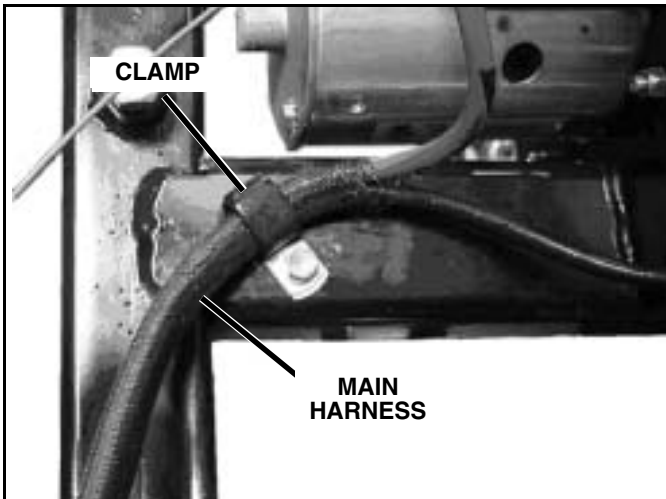

Figure 1-3
2. Run the 4 wire harness on the receiver unit over to the main power harness. Zip tie where necessary to the main power harness. Ensure the control wire harness is routed in the power harness clamp and continue running with the main power harness. Leave enough room to connect harness to vehicle harness. Ensure the cable is clear of pinch points and latching mechanism. Any excess cabling should be kept and zip tied under the pump cover. (See Figure 1-3).